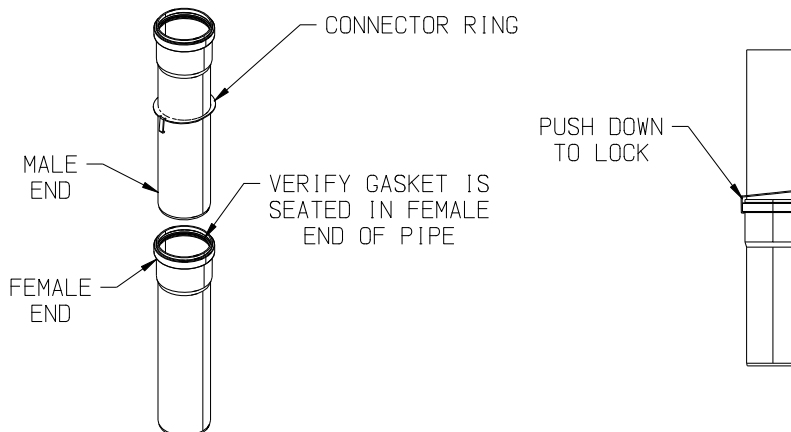

FIGURE 7.44: INNOFLUE CONNECTOR RING INSTALLATION
- c. For each joint, verify that the gasket is evenly seated in the bell (female) end of the pipe. Lubricate this gasket with Centrocerin # IACE50. Slide a connector ring over the male end of the pipe to be joined as shown in Figure 7.44. Push the male end of the next section of pipe into the bell until it bottoms out, then back out 1/4" to provide room for thermal expansion. Push hook on connecting ring over the bell end of the first section of pipe as shown in Figure 7.44.